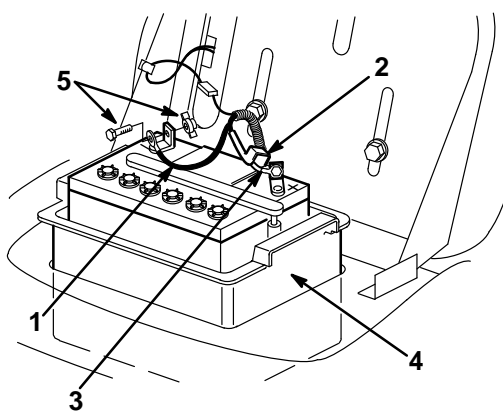

Figure 19
3. Disconnect the negative (black) ground cable from the battery post (Fig. 19).
4. Slide the rubber cover up the positive (red) cable. Disconnect the positive (red) cable from the battery post (Fig. 19).
3. Using the bolt and wing nut, connect the positive (red) cable to the positive (+) battery post (Fig. 19). Slide the rubber cover over the battery post.
4. Using the bolt and wing nut, connect the negative (black) cable to the negative (–) battery post (Fig. 19).